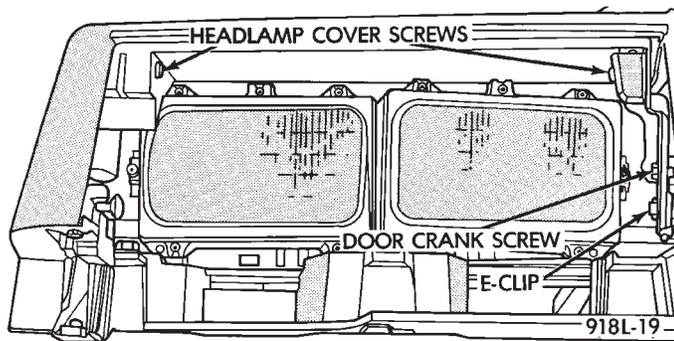

Fig. 20 Headlamp Pivot E-Clip and Crank Screw
- (13) Remove E-clip and door crank screw (Fig. 20).